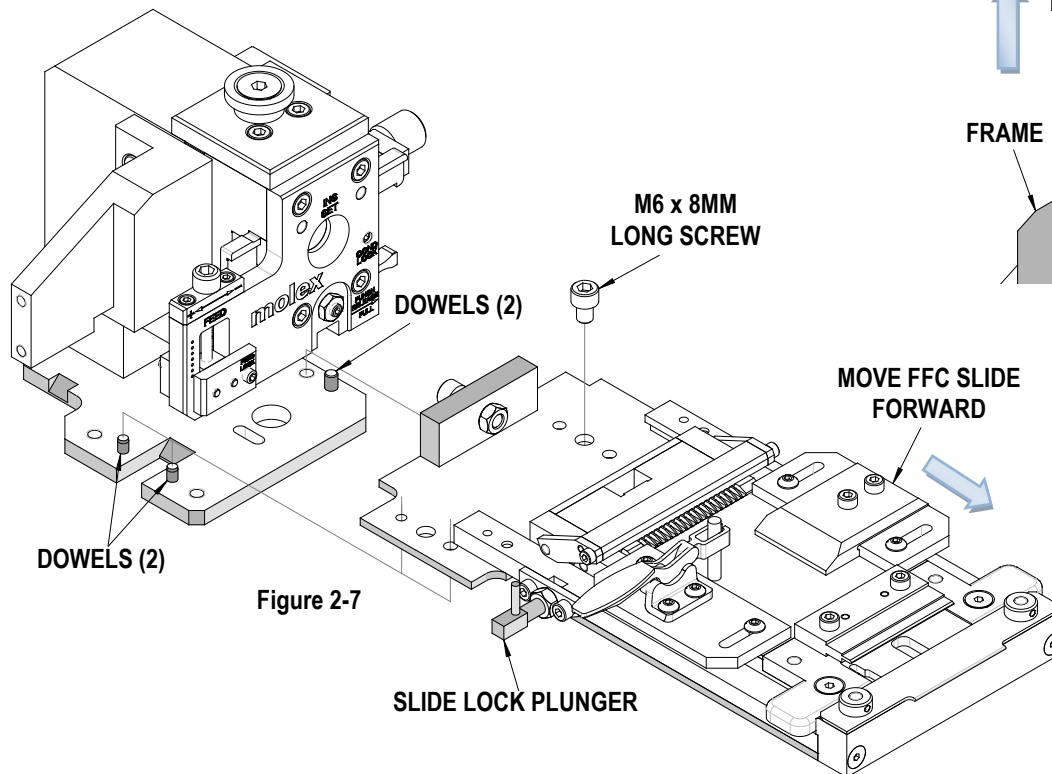

Figure 2-7
4. Move the FFC slide back by pulling out the slide lock plunger, then pulling the slide back. See Figure 2-7.
5. Locate the base plate of the FFC tooling on the four dowel pins protruding from the Crimp Module base plate. Fasten the right side of the FFC Baseplate to the crimp module with an M6 x 8mm long screw. See Figure 2-7.